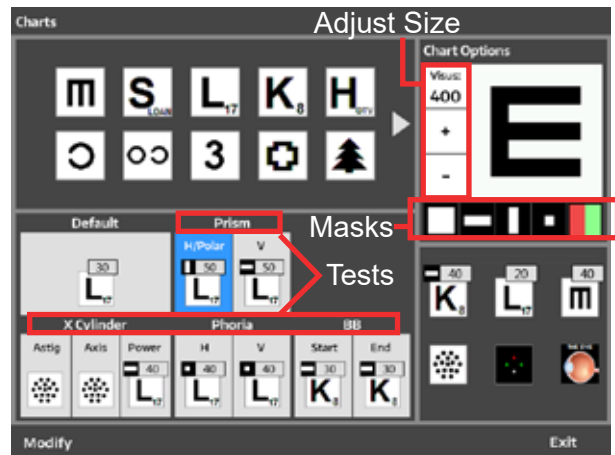

Figure IS-37 Program/Chart Edit
2. The Charts screen will pop up. Refer to Figure IS-37.